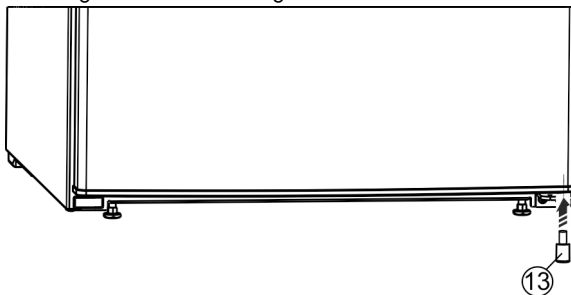

Fig. 27*
- Insert the spacer Fig. 27 (13) back under the right-hand side of the door, as it is important for the stability of the appliance.*